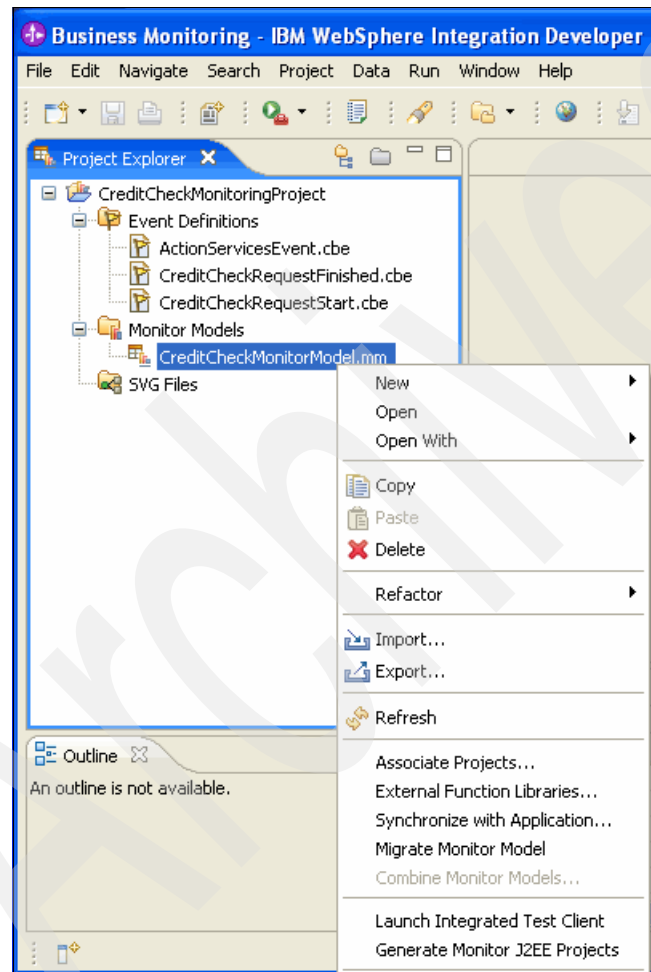

Figure 10-77 Generate Monitor J2EE Projects menu navigation
1. Generate the J2EE components required. In the Project Explorer view (Figure 10-77), right-click **CreditCheckMonitorModel.mm** and select **Generate Monitor J2EE Projects**.